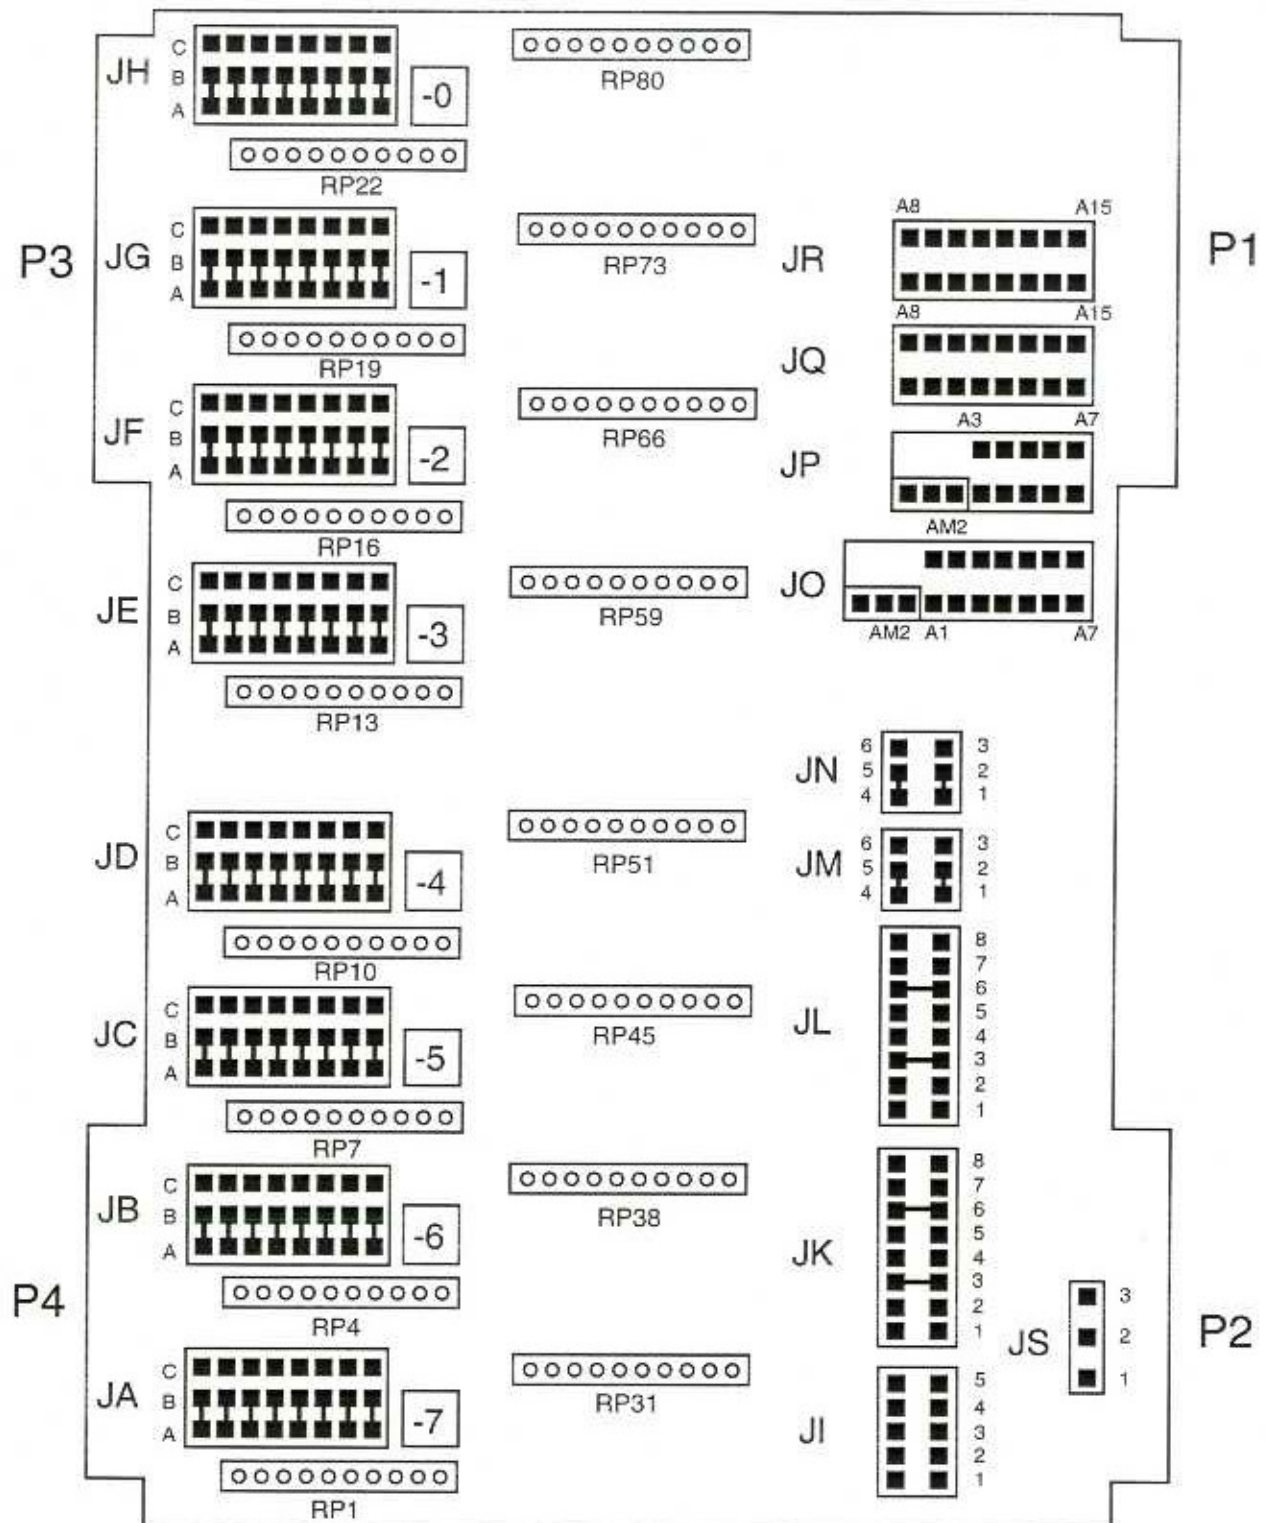

Figure 3.2.2-2. VMIVME-1111 Configuration for a Closed Switch Returning a Logic 1
The VMIVME-3451 Surge Protection board provides optical isolation as well as transient protection for the VMIVME-1111 Input board. The input of the surge protection board is a relay contact or switch to an external voltage source's return. The transistor output of the surge protection board becomes the input of the VMIVME-1111. Figure 3.2-1 shows the basic circuit topology, and Figure 3.2-2 shows the recommended jumper configuration for the VMIVME-1111 for reading a logic zero when the switch is closed. Figures 3.2-3 and 3.2-4 shows the circuitry and configuration for reading a logic one when the contacts or switch is closed.
To configure the VMIVME-1111 to read a logic one for a closed switch the circuit shown in Figure 3.2.2-1 is used. To set up this circuit, configure the VMIVME-1111 as shown in Figure 3.2.2-2. In this configuration, a discrete wire cable is required. The collectors of the output transistors of the surge protection board are connected to the minus inputs of the VMIVME-1111's comparators, via the row C pins of the input connectors. The input connector's row A pins are left open. Now the plus input of the comparator establishes the threshold. The emitters of the output transistors of the surge protection board must be routed to a chassis ground on the VMEbus chassis. This ground is not supplied by the VMIVME-1111 because the jumper fields JA through JH route the collectors to the minus inputs of the comparators. Jumper fields JK and JL set the input pull-up voltage and the threshold reference voltage. Jumper fields JM and JN set the comparator bias. Jumper Fields JO through JR are headers that establish the base address of the data registers and the address of the Control and Status Register (CSR) of each VMIVME-1111 in the system. Jumper JI selects how any external voltage used for the input pull-up or threshold voltages is brought in to the board using either the P3 or P4 connector and is not used.
Figure 3.2.2-1 shows RP1, RP4, RP7, RP10, RP13, RP16, RP19, and RP22 as the threshold setting resistors, and then resistors RP31, RP38, RP45, RP51, RP59, RP66, RP73, and RP80 become the pull-up resistors for the surge protection board's output transistors. These resistors can be swapped to choose a different threshold setting. It is recommended that the pull-up resistors be 3.3 k Ω and the threshold resistors be 33 k Ω . Then the threshold voltage Table 3.2.1-1 can be used for the external voltage thresholds. When the contacts are open there is no current in the LED and the surge protection output transistor is off. The pull-up resistor on the VMIVME-1111 forces the comparator's output to a logic zero (0). When the contacts are closed, there is current in the LED and the surge protection output transistor saturates. This places a very low voltage on the minus input to the VMIVME-1111's comparator and causes the comparator to output a logic one.